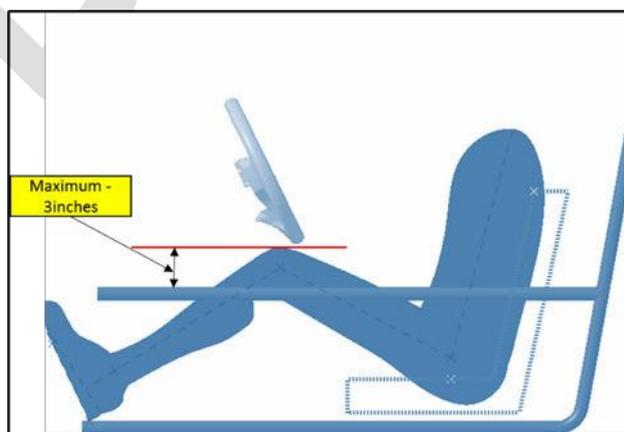
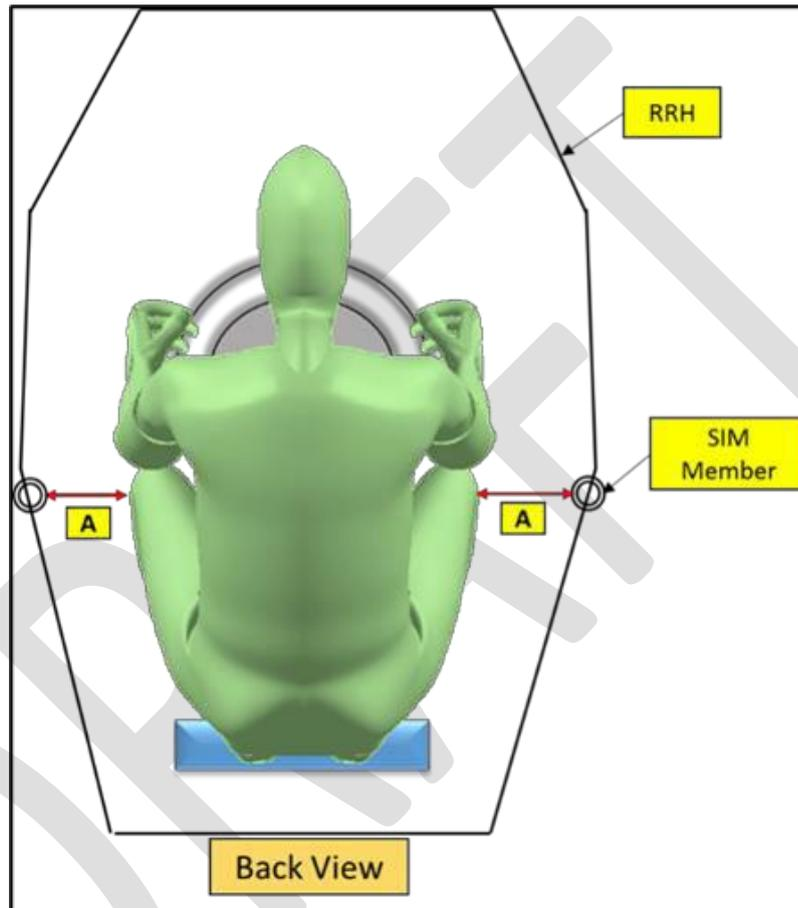

Figure B- 75: Driver Knee Safety Requirement
Figure B- 76: Driver Knee Safety Lateral Clearance
There must be a minimum clearance (RA) of 220mm between the driver's chest or upper body/torso, whichever is closest to the steering wheel, as illustrated in Figure B-75.
In line with the above rule, teams are required to meet the lateral clearance requirement of the knees. This is also measured when the driver’s feet are on the pedals and hands on the steering wheel. The dimension “A” mentioned in figure B-76 should be a minimum of 76mm (3in) w.r.t SIM member inner surface.
- Teams must ensure that their vehicle meets both the clearances mentioned under B14.3(as per Figure B-75 and Figure B-76), both the limits should be met simultaneously. Teams that do not meet these criteria will be marked as ‘not cleared at safety scrutiny’.